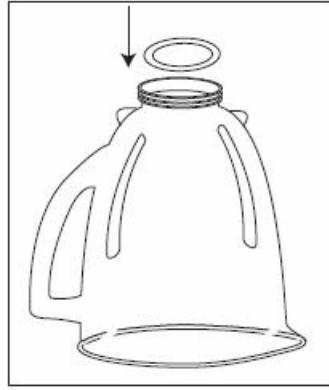

FIGURE 2
3. Place Sealing Ring over Blender Jar opening. (Figure 2)